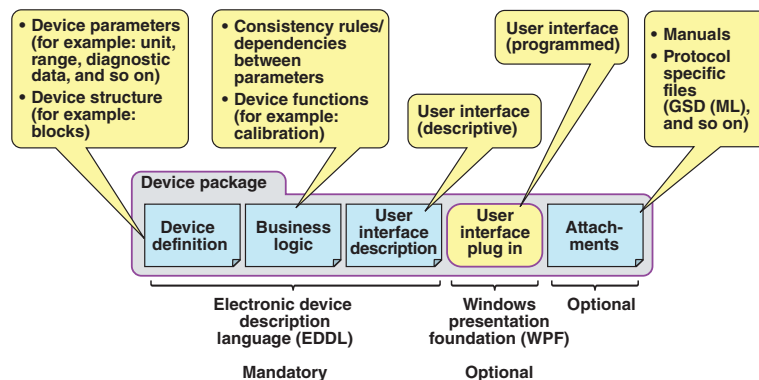

FIGURE 1. The core of FDI Technology is the FDI Device Package
Initial results are encouraging and can be seen in Figure 1, which shows an example of a calculation for a vertical cylindrical vessel with conical bottom and elliptical top. This example was assembled from calculations for three basic shapes: cone bottom, elliptical top and vertical cylinder. Each calculation contains limiting conditions and validation routines, as well as graphic representation of a shape. These conditions and validation routines are easily adoptable for the vessel shown in the example.
The core of FDI Technology is the scalable FDI Device Package (Figure 1). The FDI Device Package is a collection of files: the Device Definition (Electronic Device Description; EDD), Business Logic (BL) and User Interface Description (UID). It is based on Electronic Device Description Language (IEC 61804-3). The optional User Interface Plug-in offers the advantages of freely programmable user interfaces familiar from FDT Technology, based on Windows Presentation Foundation (WPF). The device manufacturers define, via the FDI Device Package, which data, functions and user interfaces are stored on the FDI Server.